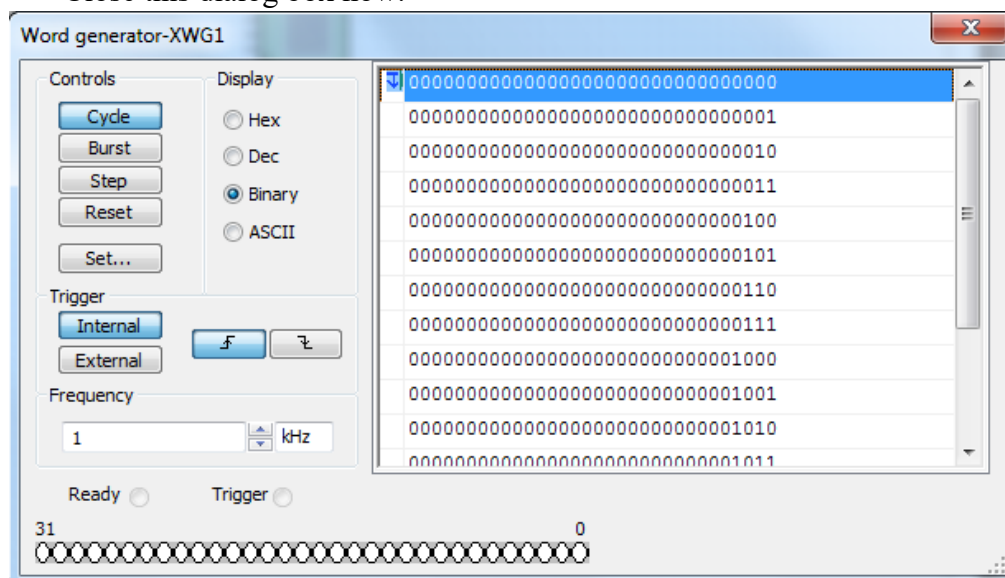

Figure 4. Cycle set in the word generator.
- Back to the previous dialog box, you will find the sequence changed (Figure 4). Close this dialog box now.